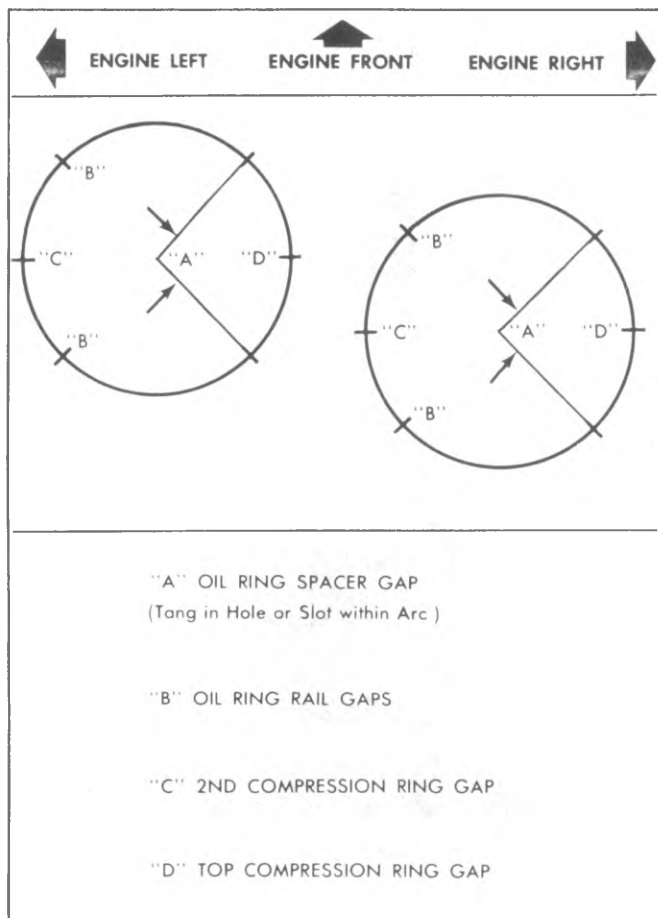

Fig. 6A1-43--Ring Gap Location
8. Install piston rings as follows (fig. 6A1-43).